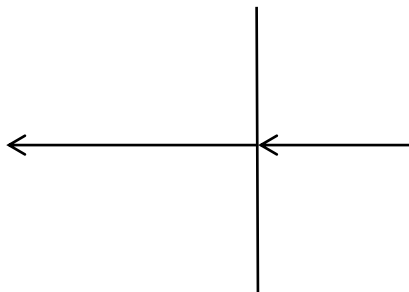
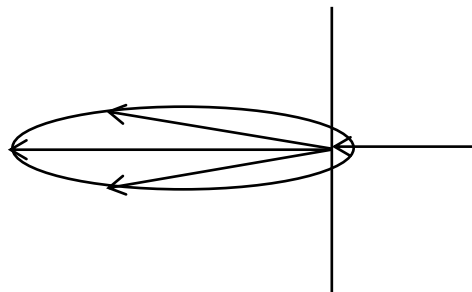
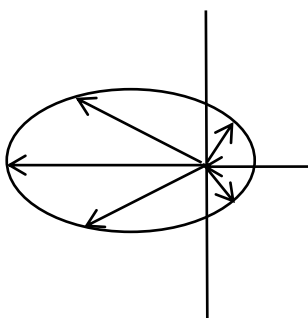

Figure 1
Figure 2
Figure 3
In various applications of liquid crystal (LC) films, people always want the lowest haze at clear state and the highest opacity or scattering at opaque state. These requirements automatically form an industrial guideline for evaluating quality of LC films. It is easy to understand a haze at clear state to be as transparent as possible. But there may be many questions for opaque state. What is characteristic of scattering? How to evaluate scattering? What kind of standard can be used? To answer these questions, it is better to first review scattering properties in optical physics. Figure 1 to Figure 4 illustrate different levels of scattering. In these figures, vertical lines represent scattering surfaces, such as testing samples, and arrows in right side represent incident lights.
Figure 1 shows a situation, in which incident light passes through a clear sample, such as glass or film, without scattering. Figure 2 shows a situation, in which a sample just has a little scattering like a case of beginning stage of grinding a clear glass to form a frosted glass. An oval shape represents intensity of scattered light in all directions. Figure 3 shows a low level of scattering like a frosted glass. First generation (1G) and second generation (2G) LC films are close to this situation. Such scattering has following characteristics. (1) Intensities of scattered lights in all directions form an oval shape, so called oval scattering. This oval shape also represents a distribution of brightness. (2) Intensities of back scattering (back to incident direction) are much weaker than transmitted intensities. (3) Transmitted energy still remains a major direction same as incident direction. It is the characteristics that seriously affect quality of projection. Figure 4 shows a high level of scattering, in which scattering lights have same intensities in all directions and form a sphere, so called spherical scattering. Scienstry's 3G Switchable Film™ has such scattering. Spherical scattering equally distributes scattered lights in both sides of scattering surface and does not have a major direction. It is symmetrical and uniform in all directions. Such optical properties are very good for projection and have a lot of advantages in various applications.
By reviewing these figures from Figure 1 to Figure 5, we may understand that an oval shape indicates scattering capability. The flatter an oval shape, the weaker the scattering capability is, corresponding to a weak opacity or hidden power too. When scattering gets stronger, the oval shape becomes more round. Since view blocking capability of liquid crystal film is totally dependent on scattering levels as we experienced, scattering capability is naturally used to evaluate the quality of LC film. A non-uniform scattering never offers a good result for projection. According to the law of conservation of energy, the better scattering a sample has, the weaker the transmitted light along with the incident direction should be. When all directions of light have maximum energy, the only result is that light intensity along the incident direction is equal to the intensities of other directions; therefore, a spherical scattering is formed. Since front projection mainly utilizes back scattering capability, picture quality is dependent on back scattering capability. Spherical scattering brings more light back to the incident side than oval scattering, so spherical scattering has a great brightness. That is why older films with a serious oval effect are not suitable for projection, definitely not for front projection or short throw front projection.